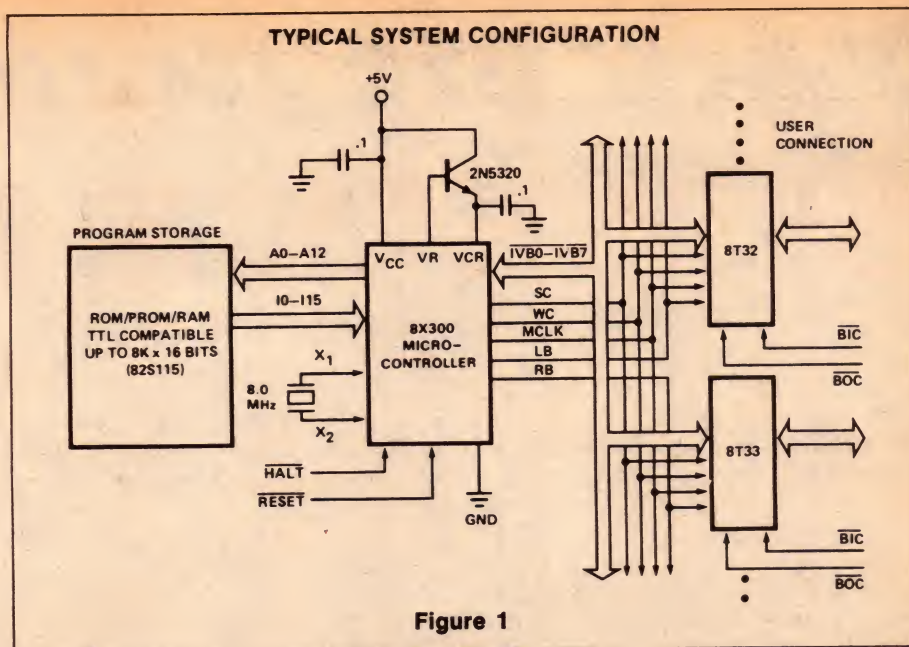

Figure 1
The interface-vector bus is partitioned into two banks, allowing the 8X300 to select ports dynamically. The processor uses the left-bank (LB) and right-bank (RB) data-control lines as master enables for the I/O ports, as shown in the typical interconnect scheme of Fig. 1. Any two I/O ports can be active at the same time provided they are on opposite banks, and the ports recognize address, data, and controls only when enabled by the bank signal to which each is connected. Bank partitioning can thus be considered a ninth address bit that is alterable by the processor within an instruction, and it is this additional bit that permits direct addressing of 512, or 2^9 , I/O ports.
As you can see from Fig. 1, the main peripheral chip required to implement a typical working configuration, apart from ROM and RAM memory, is the 8T32 dual port register. This is an 8-bit bidirectional data register, which is accessible via either a microprocessor port (normally connected to the IV bus), or a user port.